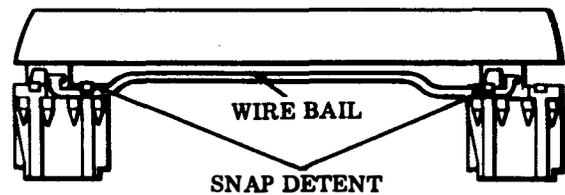

Fig. 4—Wire Bail Removal
- (d) Remove the wire bail from the left and right spacebar guides (snap in and out) (Fig. 4).